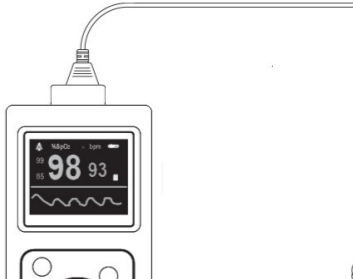

Figure 5 Sketch map for finger placement
- The finger should be placed correctly (see Attached figure 5), as improper installation or improper contact position for sensor will influence the measurement.
A. Put the finger into the probe. Refer to Figure 5.
(The appearance of actual probe may be different with the one shown as Figure 5, please refer to the actual probe.)